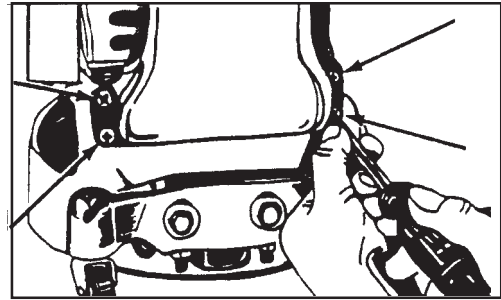

Figure 6
1. Remove the four screws that hold the exhaust pipe to the housing. See figure 6.